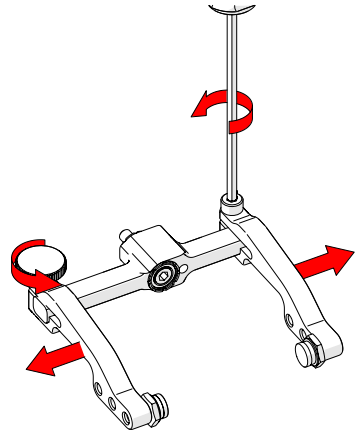

Fig. 76 - Remove probe holder arms
3. Loosen the probe holder arm adjustment knob and the arm clamp screw. Slide the probe holder arms off the yoke (Fig. 76).